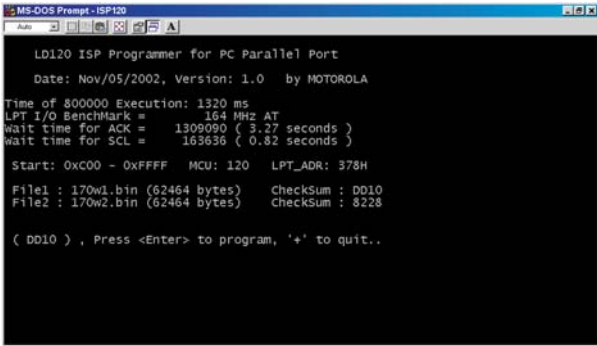

Fig. 7
Step 5-2.=> Press "Enter" key on keyboard, bring up Fig. 7.